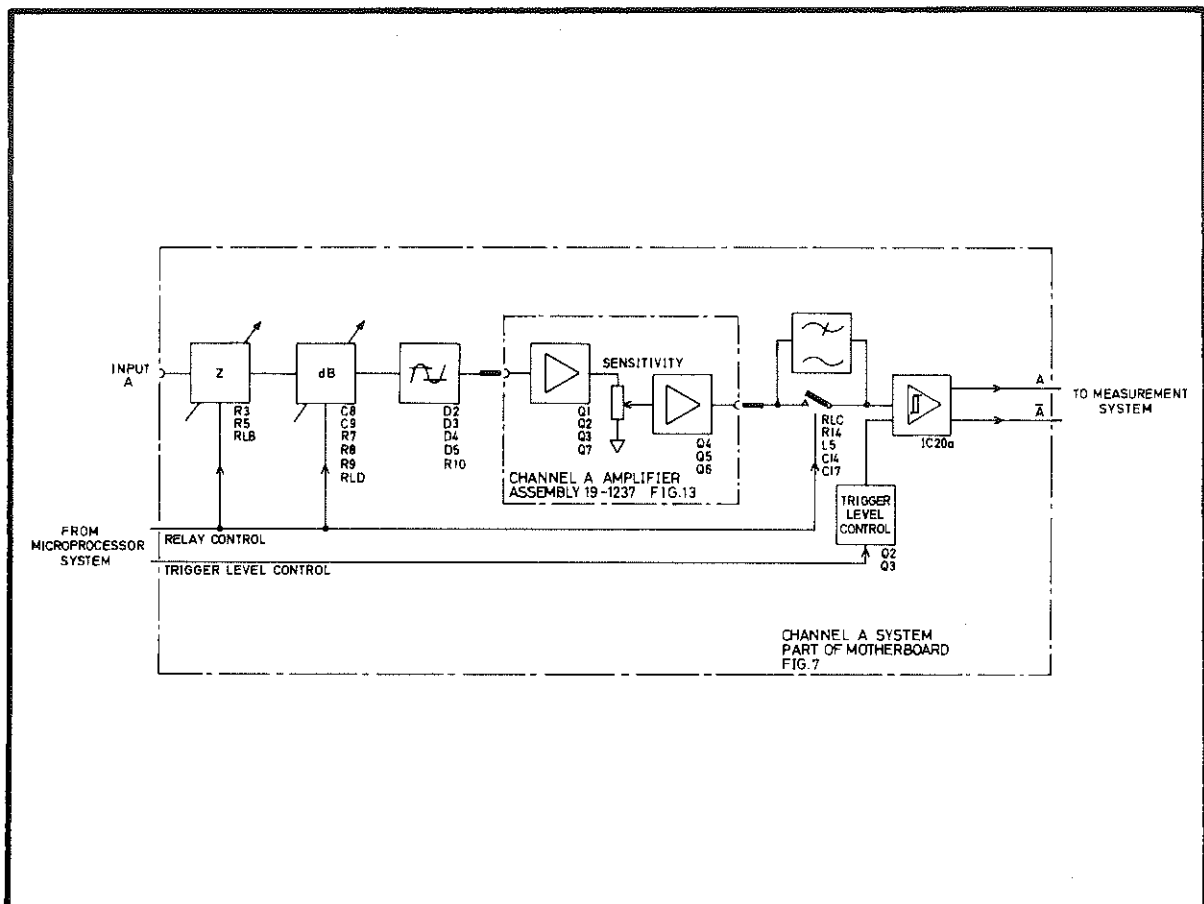

Fig 6.2 The Channel A System
- 6 The channel A system processes the signals applied at the A channel input to produce a differential pair of signals which are fed to the measurement system. A block diagram is given in Fig 6.2.